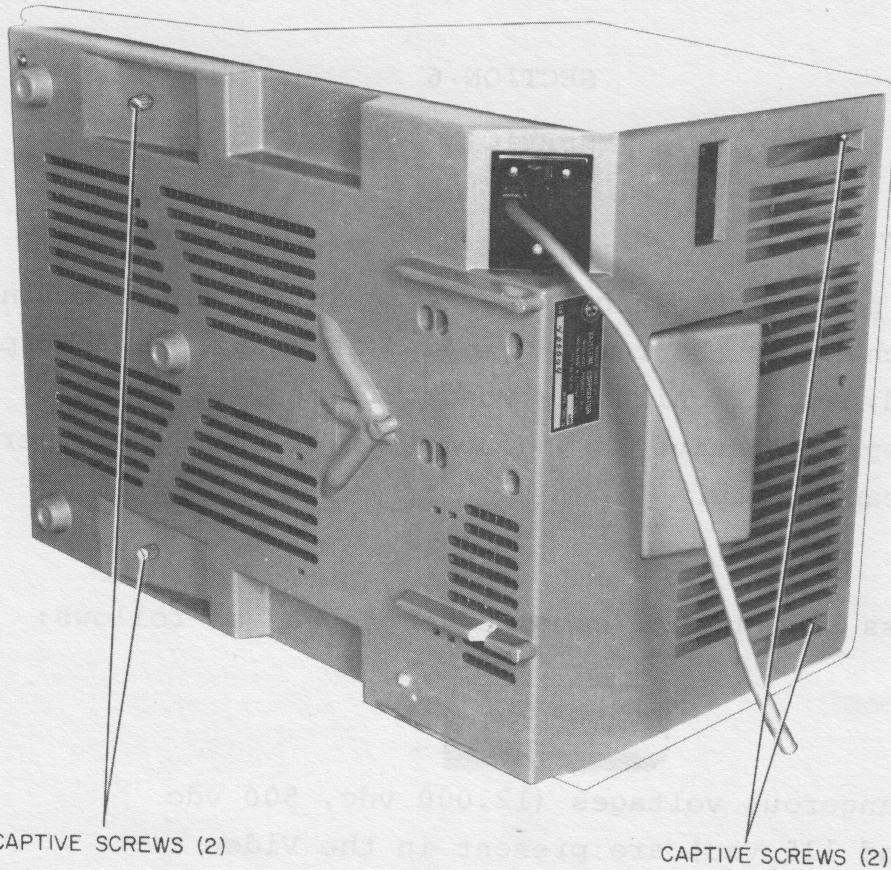

Figure 6-1. 1400 Terminal, Rear and Bottom View
- b. Lay the terminal on its side and loosen two captive screws in the base (figure 6-1).
- b. Loosen two screws securing circuit board to base (figure 6-1).